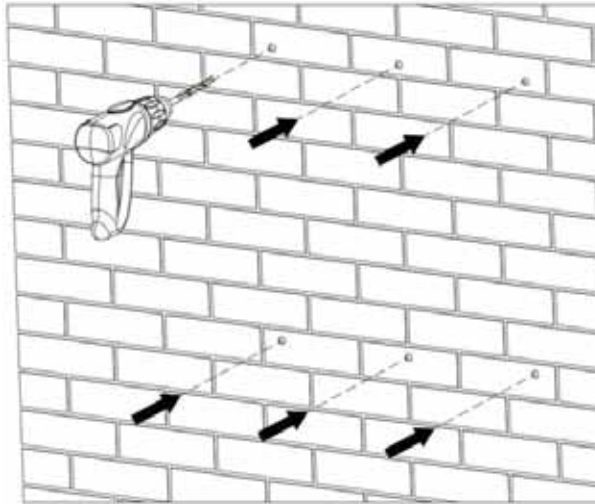

Figure 4.8 Drilling
(2) Drill 6 installation holes on the wall with electric drill. As shown in Figure 4.8